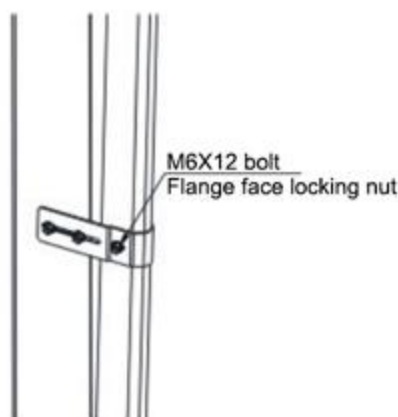

Figure 3-2
3.2 The installation procedure of the vertical guide rail of the upper slide type industrial door is the same below the door opening, and the vertical guide rail of the vertical lift type and high lift type is connected with the auxiliary rail by connecting pieces above the door opening, as shown in Figure 3-2.